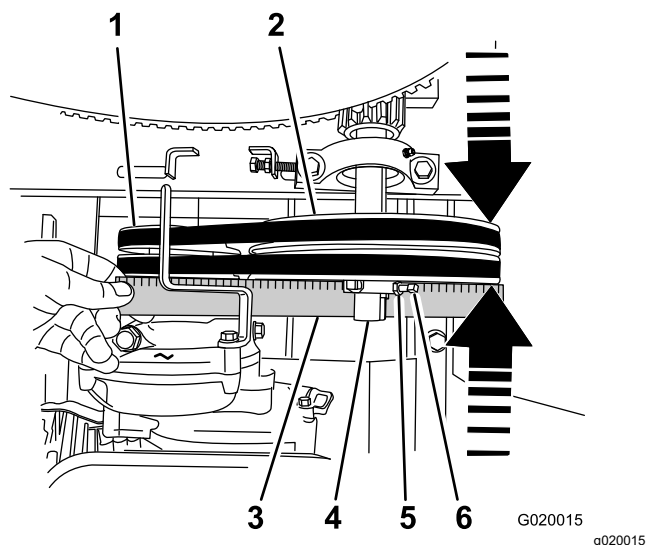

Figure 70
5. Place a straightedge across the face of the engine pulley and idler pulley (Figure 70).
- B. Loosen the locknuts and setscrews that secure the idler pulley to the idler shaft (Figure 70).
- C. Using a soft-face mallet, tap the idler pulley forward or backward along the idler shaft until the engine pulley and idler pulley are aligned to the straight edge (Figure 70).
- D. Tighten the set screws and locknuts that secure the idler pulley to the idler shaft (Figure 70).